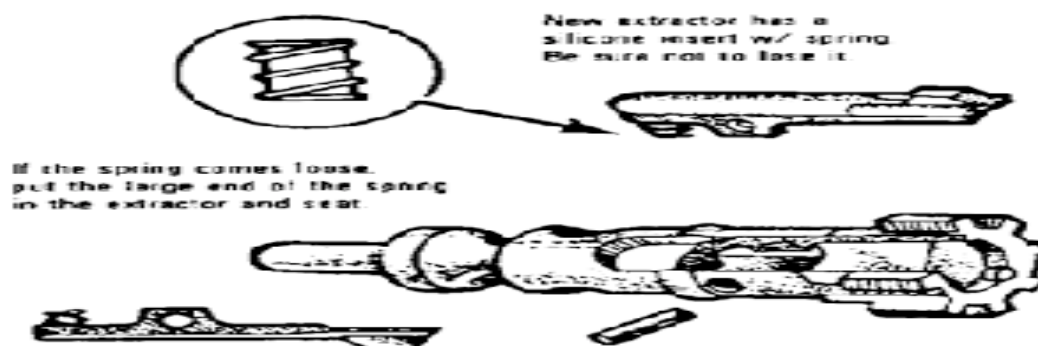

Figure E-25. Placing the extractor and spring.
- b. Insert the extractor and spring (figure E-25).